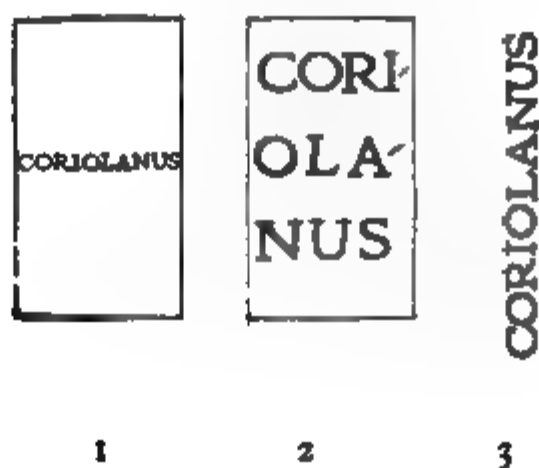

FIG. 95.
As a general rule, lettering looks best if it comfortably fills the panel, but of course it cannot always be made to do this. The greatest difficulty will be found in making titles of books that consist of a single word, look well. Thus if you have "CORIOLANUS" to place on a back which is not more than $\frac{1}{8}$ -inch wide, if it is put across as one word, as at fig. 95 (1), it will be illegible from the smallness of the type, and will tell merely as a gold line at a little distance. If a reasonably large type is used, the word must be broken up somewhat, as at (2), which is perhaps better, but still not at all satisfactory. The word may be put straight along the back, as at fig. (3), but this hardly looks well on a book with raised